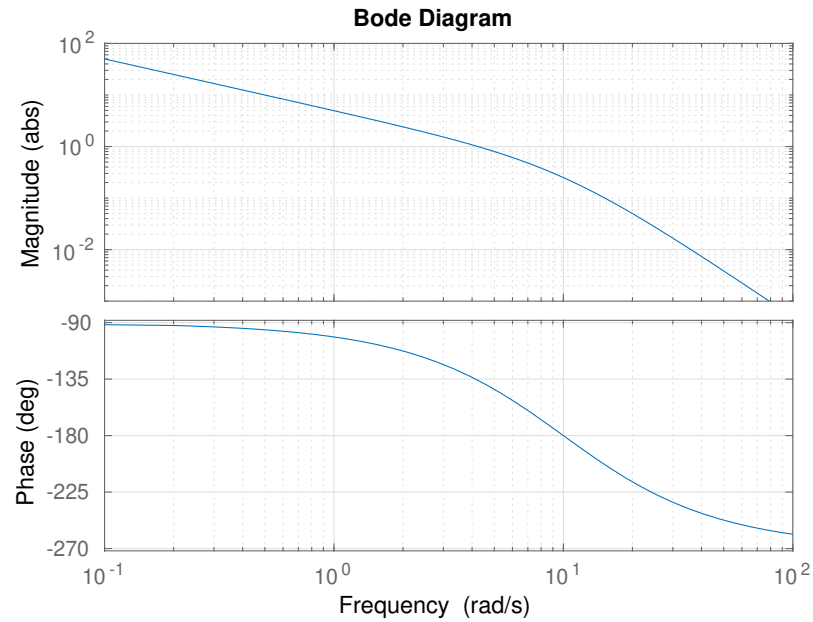

Figure 4: The open-loop transfer function  $G_0$  in problem 5.
5. Consider the Bode plot of the open-loop transfer function  $G_0$  in Figure 4.